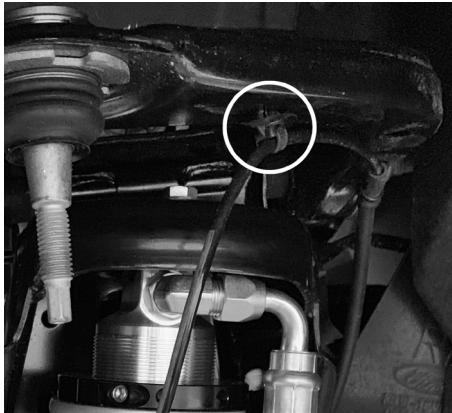

Figure 4: Passenger side shown
8. Disconnect the outer most ABS wire clip from the upper control arm. (Figure 4)